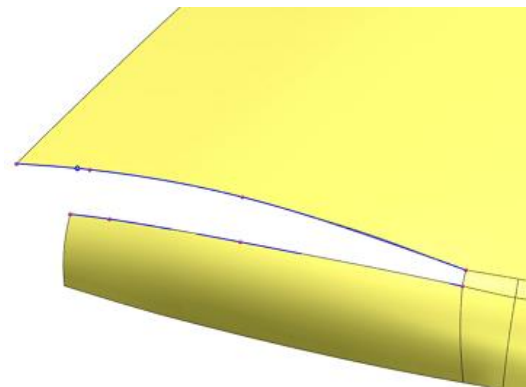

Figure 248
- Click the **OK** button to remove the area between the splines. (**Figure 248**)